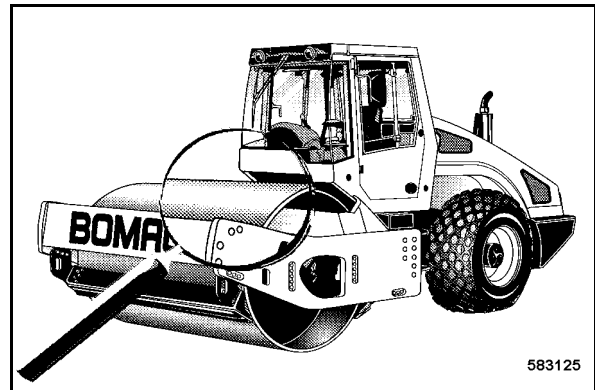

Fig. 195
- Clean the machine (Fig. 195) thoroughly at least once per week.